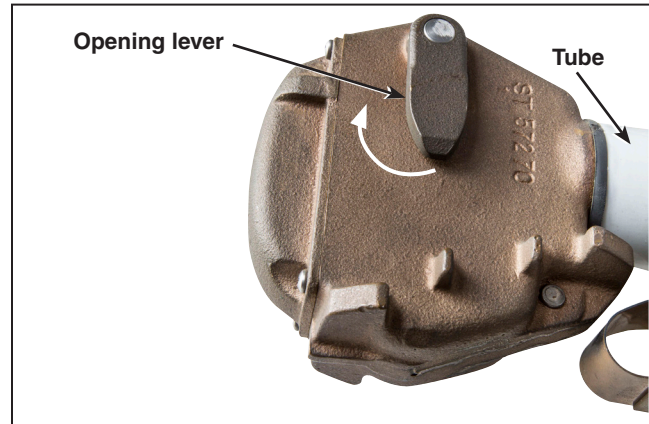

Figure 11. Pull the opening lever away from the tube of the interrupter to place it in the OPEN position.
- (c) Make sure the interrupter is in the open position by pulling the opening lever away from the tube of the interrupter. See Figure 11.